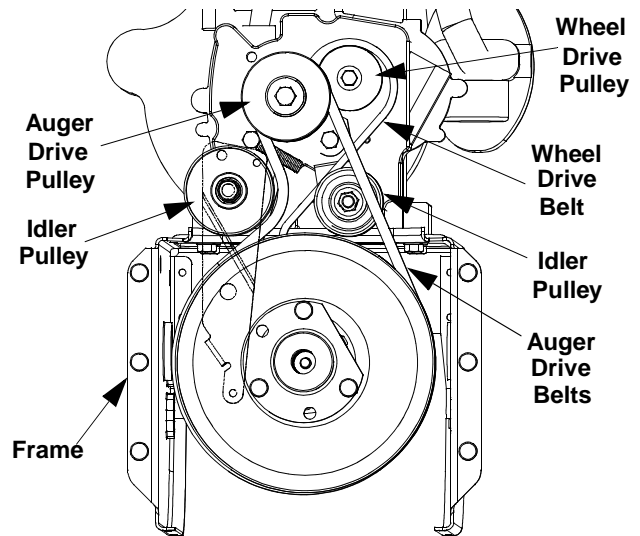

Figure 16
- Roll the front and rear auger belts off the auger drive pulley. See Figure 16.